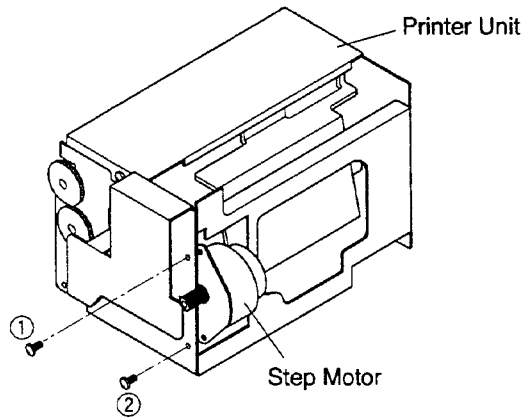

Fig. 10
2. Remove two screws (① and ②) securing the Step Motor shown in Fig. 10 and remove the Step Motor.